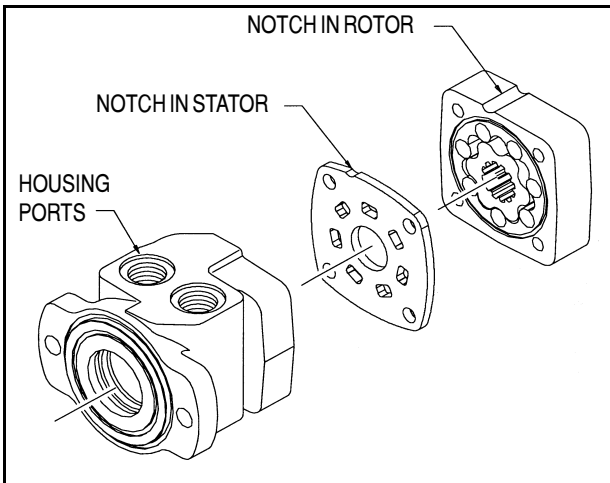

Figure 3-24. Notch Alignment
9. Using alignment marks as a guide, place the wear plate on the housing making sure the notch in the wear plate is aligned with the port side of the housing as shown in Figure 3-24., Notch Alignment.
12. Once splines are engaged, rotate rotor so the notch on the rotor is aligned with the notch on the wear plate and the ports on the housing. Refer to Figure 3-24., Notch Alignment.